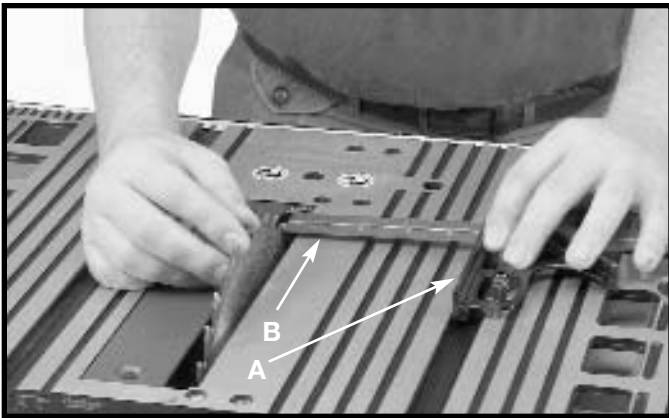
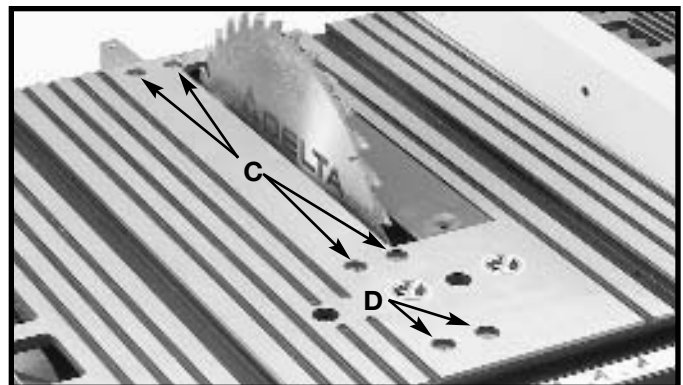

Fig. 35
Fig. 37
2. The pointer indicates the distance from the fence to the saw blade. If an adjustment is required, loosen the screw (C) Fig. 37 and adjust.
3. Use a combination square (A) Fig. 35 against the miter gauge slot and adjust the blade (B) of the square until it touches the marked tooth.
5. If the front and back measurements (Figs. 35 and 36) are not identical, you can adjust the blade. Start by loosening the nuts below the four screws (C) Fig. 37 on the table. Then loosen the screws (C). Carefully move the saw blade until the blade is parallel to the miter gauge slot. When done, tighten four nuts under the table and the four screws (C) Fig. 37 securely.
NOTE: If sufficient adjustment cannot be achieved by loosening the screws (C) Fig. 37, loosen the screw (D) Fig. 37 necessary to make the adjustment.